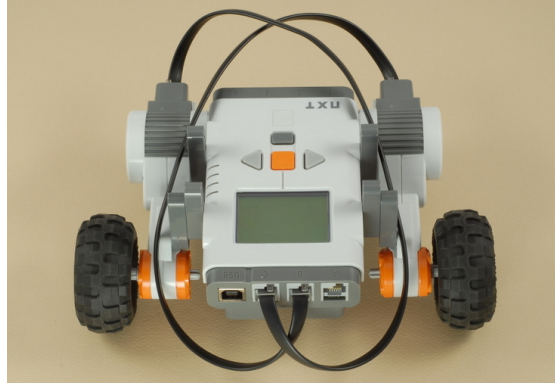

Figure 1.1: The five minutes robot : http://www.nxtprograms.com/five_minute_bot/DCP_8899.JPG
- Robot (see figure 1.1)
Our robot is the 5 minutes bot as can be seen in figure 1.1. It consists of two actuated wheels on the sides of the robot and one free spinning wheel in the front.